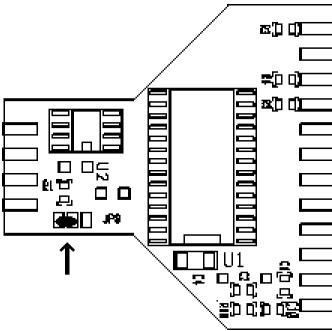
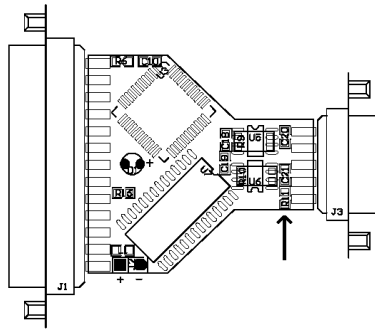

Figure 2:
Figure 3:
2. Set the solder bridges on the PCAN-Dongle PCB according to the desired settings. Figure 2 and Figure 3 show the possible positions of a solder bridge.